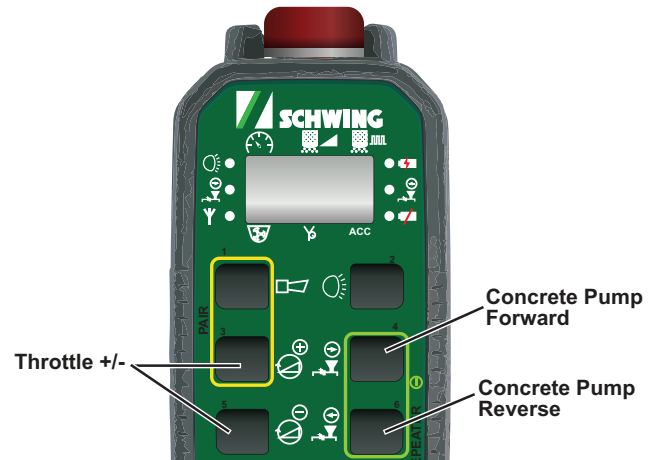

Figure 12
- With the cement washed to the bottom of the hopper, press the concrete pump forward and then reverse buttons (Figure 12) to cycle the rock valve back and forth a few times. This will agitate the mix a little more. Do not try to pump this mix until you can add concrete.
- Use the throttle increase and decrease buttons (Figure 12) to increase the engine RPMs to the specified maximum engine speed. Note: The ECU will not allow you to go above this limit.